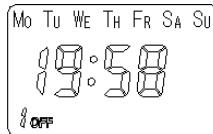

Figure 14
4.2.4.3 Setting 1OFF (first switch-off) time: Step 4.2.4.2 1OFF set-up time, as shown in figure 14.